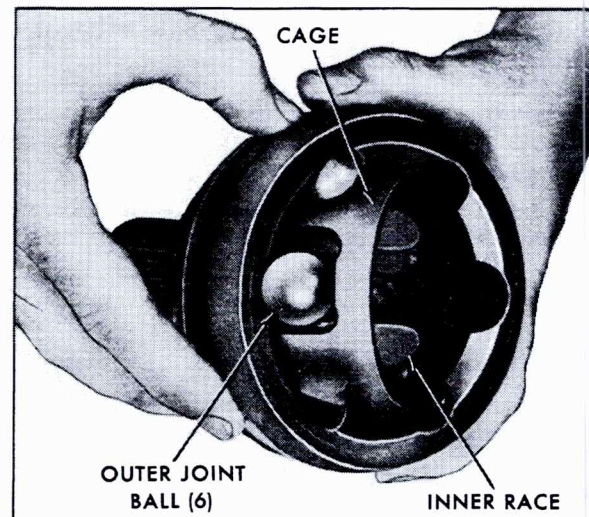

Fig. 3-62 Removing Balls From Outer Joint
7. To remove the balls, hold the constant velocity joint with one hand, then tilt cage and inner race as shown in Fig. 3-62 so that one ball can be removed. Continue until all six balls are removed.
4. Apply lubricant to the inner and outer race and insert balls into outer race one at a time as shown in Fig. 3-62, until all six balls are installed.